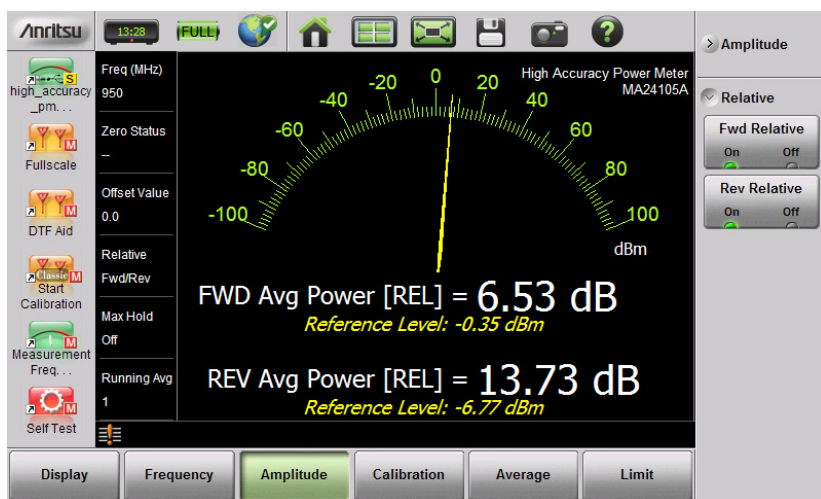

Figure 6-13. Forward and Reverse Relative Power
3. Any change in either forward or reverse power will now be displayed relative to the set reference level power. Refer to Figure 6-13.